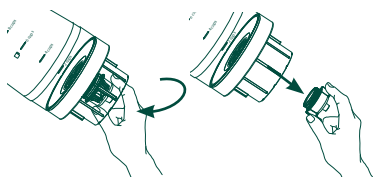

Figure: 2
- 3 Unscrew the charcoal water filter Cartridge, located on the bottom of the water reservoir, by rotating the winged cap counter-clockwise 90° with your hand. See Figure: 2